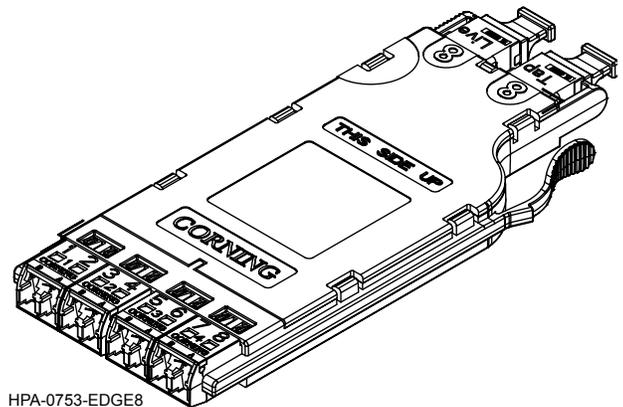

Figure 1
1.1 This procedure describes EDGE8™ LC-MTP Tap Modules, which are available for both multimode and single mode applications. Compatible with all EDGE8 rack-mountable connector housings, LC-MTP Tap modules have twelve front-mounted shuttered LC adapters and two rear-mounted MTP connectors (Figure 1).